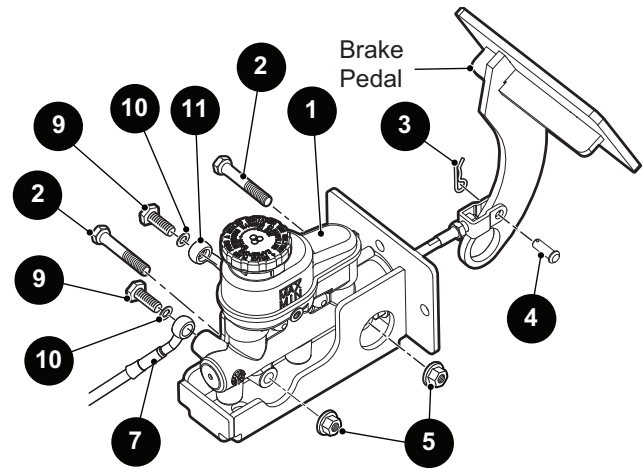

Fig. 2 Master Cylinder
2. Clean the area around the master cylinder (1) to prevent dirt and grease from contaminating the hydraulic system (Ref. Fig. 2).
3. Remove the banjo bolts (9) and washers (10).
4. Disconnect the front brake line (7) and the rear brake line (11) from the master cylinder (1) (Ref. Fig. 2). Provide a container for the released brake fluid.
5. Remove the cotter pin (3) and clevis pin (4).
6. Remove two hex head bolts (2) and nuts (5).